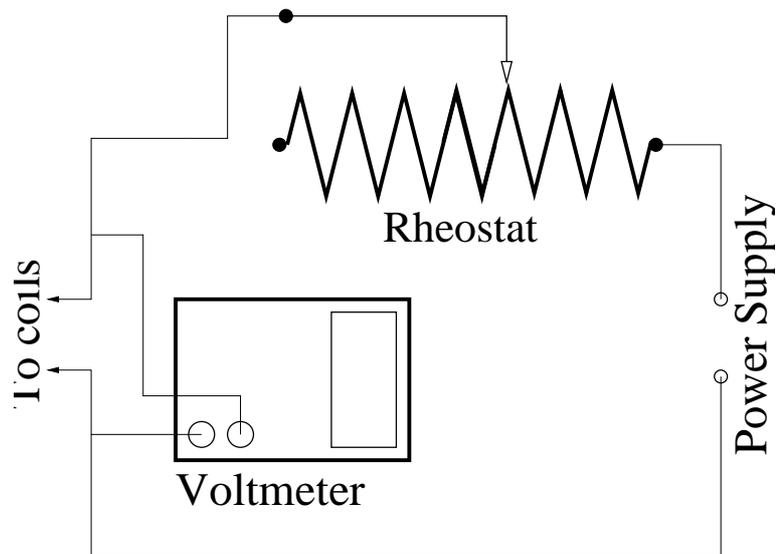
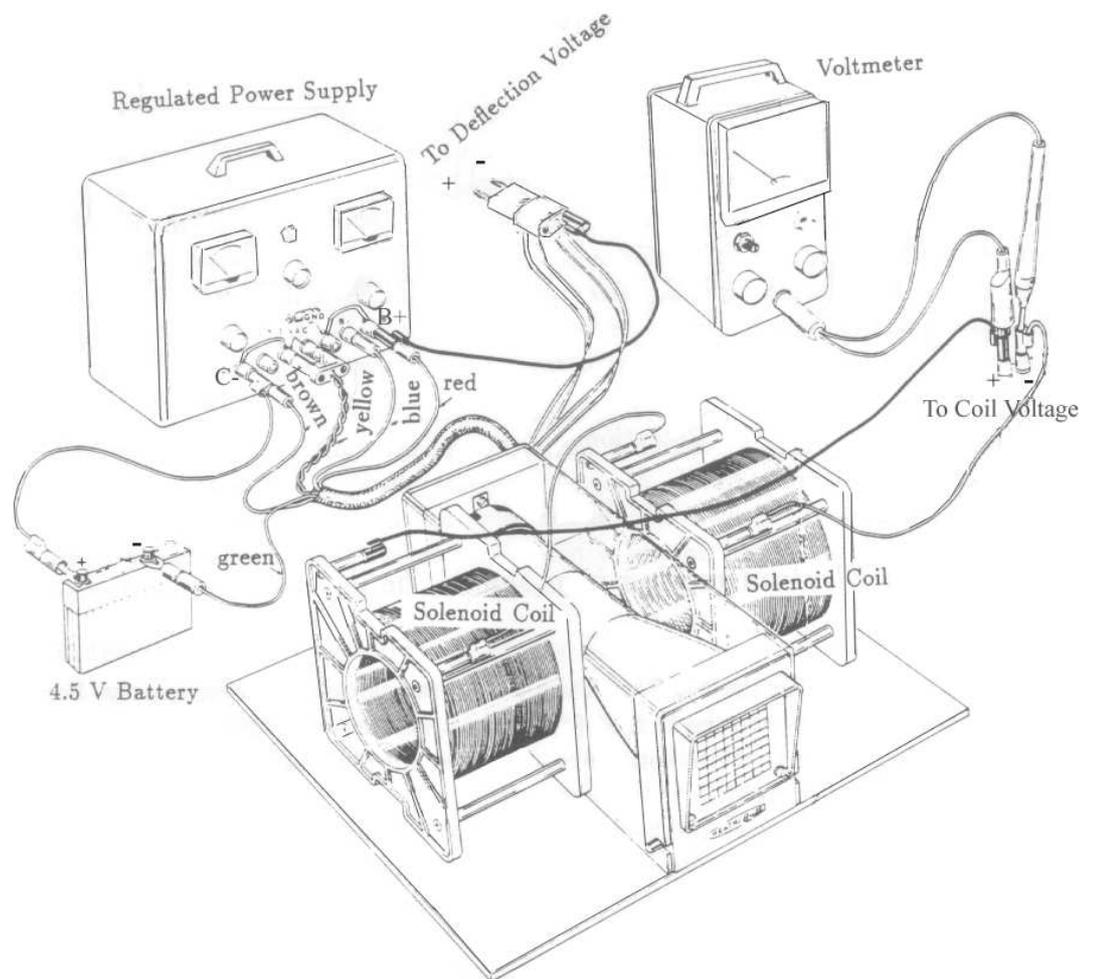

Figure 4. Connection of the power supply to the coils.
Figure 5. Drawing of experimental apparatus.
- A-1.** The apparatus should be wired up by your instructor before you come to the laboratory. You may check connections against Fig. 5.
Leave the 30V power supply and voltmeter off and disconnected for now. Check that the 4.5 V battery is connected to the system (see Fig. 5).
Leave the horizontal deflection plates and the coils unconnected. Connect also the digital voltmeter to read the deflection voltage (note that Fig. 5 shows the voltmeter connected to the coils, which will be the case in experiment B).
B-1. The two coils should be positioned and wired as shown in the Fig. 5. Switch off the 30V power supply, disconnect it from the deflective plates and connect it to the coils. There should still be a connection between the B+ output of the regulated power supply and the negative output of the 30V power supply. To reduce voltage supplied to the coils include rheostat in one leg of the connection as illustrated in Fig. 4. The voltmeter should be connected to measure voltage supplied to the coils as shown in Fig. 4.